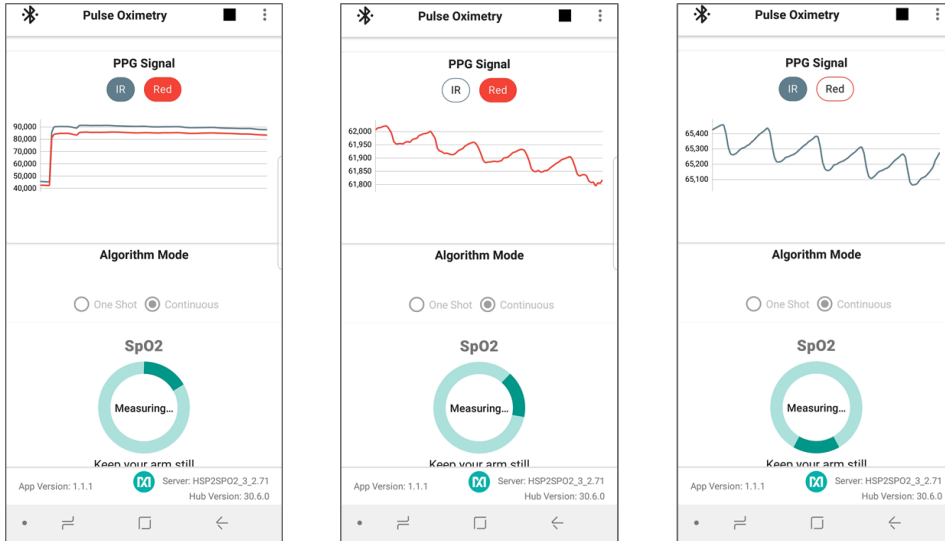

Figure 42. IR and Red signals displayed during SpO2 measurement.
3. The IR and Red signals are graphed if the **IR** and **Red** buttons have been selected. In order to retrieve a valid SpO2 reading, the signals should have peaks and valleys as depicted in Figure 42. If the waveform is not correct, then the strap tightness or health sensor enclosure position may need to be adjusted.